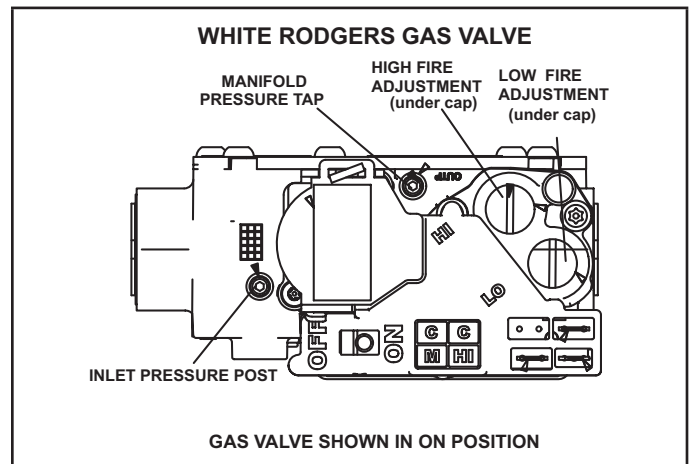

FIGURE 63
### Gas Valve Operation (FIGURE 63)
- 6 - Move gas valve switch to **OFF**. See FIGURE 63.
- 8 - Move gas valve switch to **ON**. See FIGURE 63.
An inlet post located on the gas valve provides access to the supply pressure. See FIGURE 63. Back out the 3/32 hex screw one turn, connect a piece of 5/16 tubing and connect to a manometer to measure supply pressure. See TABLE 15 for supply line pressure.
A manifold pressure post located on the gas valve provides access to the manifold pressure. See FIGURE 63. Back out the 3/32 hex screw one turn, connect a piece of 5/16 tubing and connect to a manometer to measure manifold pressure.
- 5 - If necessary, make adjustments. FIGURE 63 shows location of high fire and low fire adjustment screws.